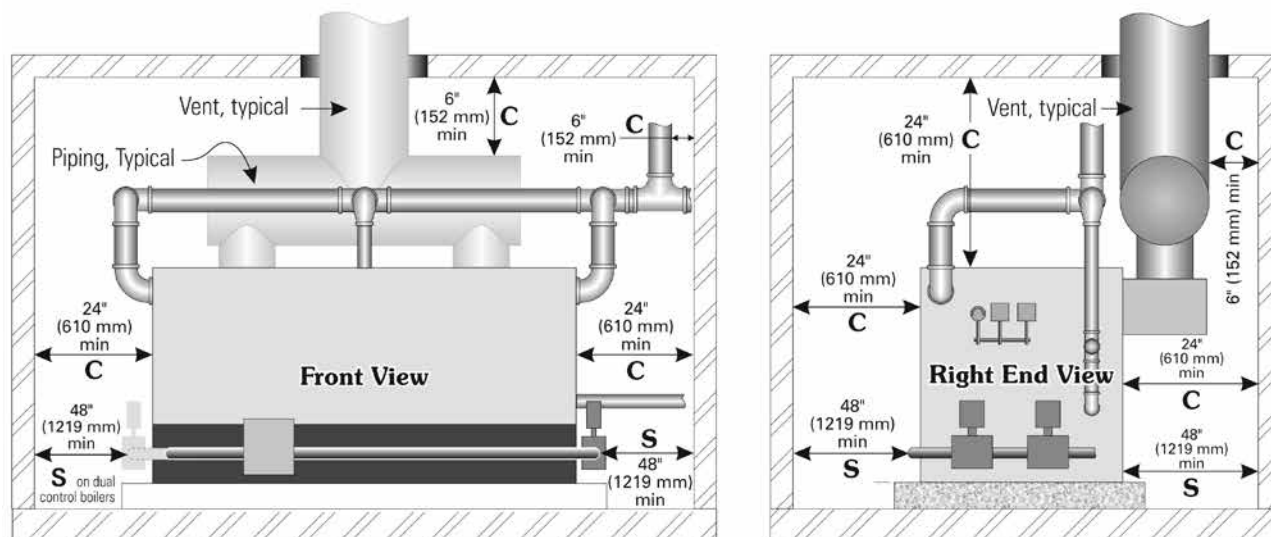

Figure 1.1: Clearance Requirements
- c. See Figure 1.1. Clearances with an "S" are minimum clearances for service accessibility.
- See Figure 1.1. Clearances with a "C" indicate minimum clearances from combustible construction.